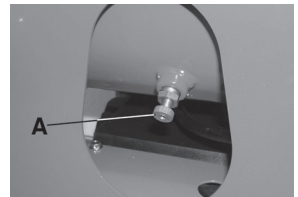

FIGURE 4
DRAIN VALVE (A) FIG. 4. The drain valve is located at the base of the air tank and is used to drain condensation from the tank to prevent corrosion. Drain tank at the end of each use.
- D. Fully open the drain valve (A) Fig. 4, by turning it counterclockwise, to prevent air pressure build-up in the tank.
10. Drain water from air tank. Turn drain valve (A) Fig. 4, counterclockwise to open.
5. Drain water from air tank. Turn drain valve (A) Fig. 4, counterclockwise, to open.